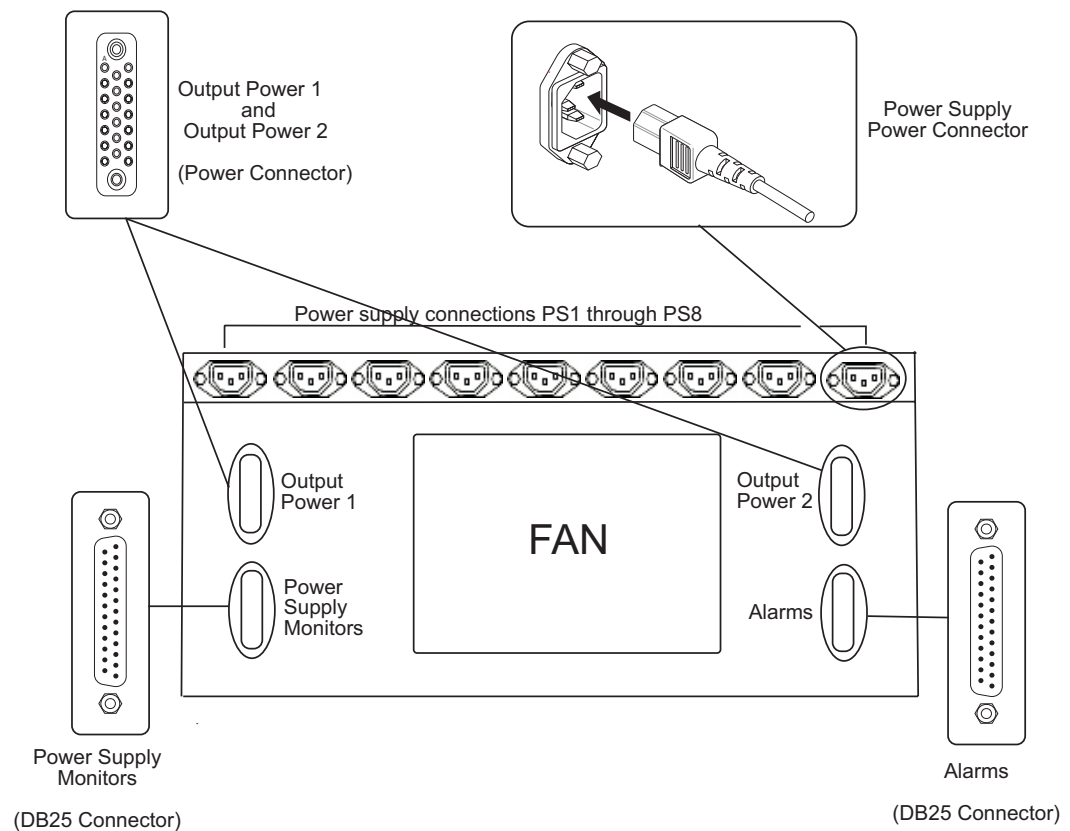

Figure 3-1. NV6257 Power Supply (Rear View)
- 3 Facing the rear of the **NV6257**, using one of the two power supply cables (WC0085-00), connect to 'Output Power 1', as shown in Figure 3-1.
- 5 Facing the rear of the **NV6257**, using the remaining power supply cable, connect to 'Output Power 2', as shown in Figure 3-1 on page 28.
- 7 Facing the rear of the **NV6257**, connect one end of the monitor cable (WC0046-00) to the 'Power Supply Monitors' DB25 connection, as shown in Figure 3-1 on page 28.
- 9 Facing the rear of the NV6257, connect power cords from an AC power source (90–230 VAC, 50–60 Hz) into power connections *PS 1* through *PS 8*, as shown in Figure 3-1 on page 28. You must connect one power cord for each PS6000 power supply module installed. (See step 10.)